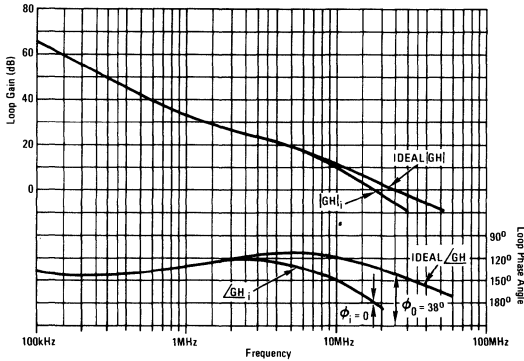

Figure 6
Therefore, the input capacitance creates a pole at $\omega_p = 1/R_{1f}C_i$ producing additional phase shift about this frequency. This will reduce the phase margin resulting in possible oscillation. For example, if $R_1 = R_f = 2K$ and $C_i = 10pF$, the pole frequency is found to be $f_p = 16MHz$. The loop gain plot $(GH)_i$ in Figure 6 reveals a perfect oscillatory condition at 18MHz; i.e. $|GH| = 0dB$ and ϕ_i (phase margin) = 0. If input capacitance were neglected, our prediction would have erroneously resulted in a phase margin (ϕ_o) of 38°.
- (1) Plot both gain and phase of the GH function on semi-log paper (see ideal GH curve Figure 6). The following points were tabulated: